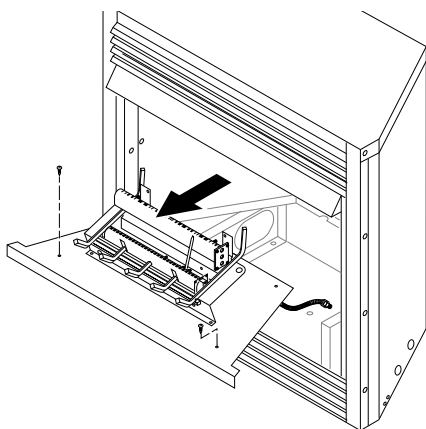

Figure 30 - Removing Log Base Assembly From Fireplace
2. Remove screws that attach log base assembly to fireplace (see Figure 30, page 15). Carefully lift up log base assembly and remove from fireplace (see Figure 30, page 15).